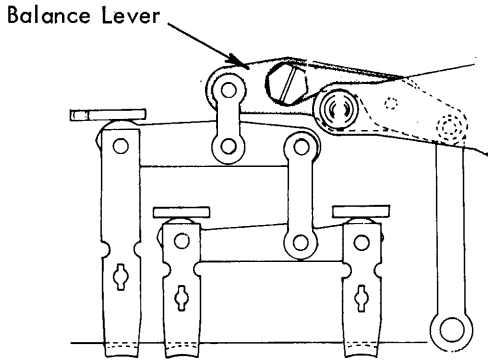

FIGURE 120. Balance Lever Adjustment
9. **Balance Lever** - With the machine in upper case loosen the lock nut on the balance lever and move the right hand member of the balance lever (Fig. 120) left or right until a half-cycled +5/-5 (I/O Home) combination detents (coarse aligns) the same as a half-cycled zero rotate character. The combination can easily be obtained by holding the negative-5 latch interposer forward with the fore finger while striking a +5 character with the thumb.